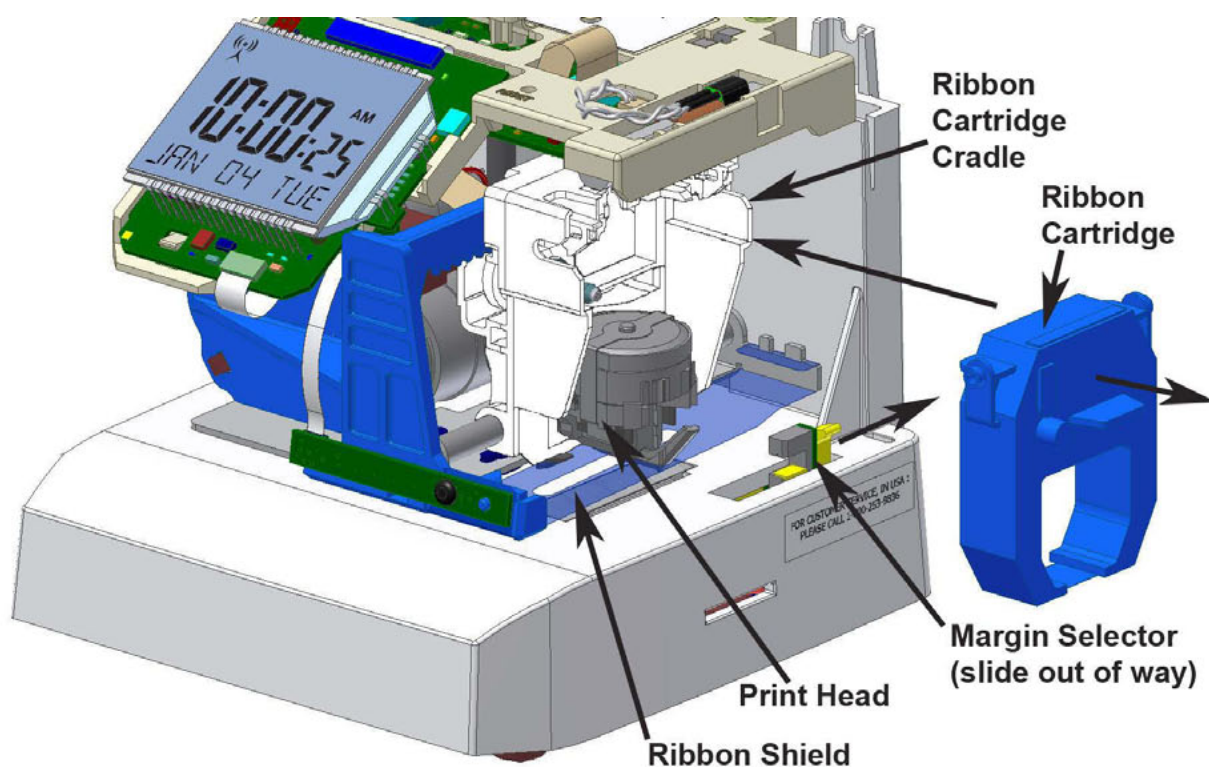

Figure 2: TCX-85 Ribbon Cradle Location.
The Amano TCX-85 clock pictured in Figure 2 (next page) shows a typical layout with the ribbon cartridge removed from the cradle.
**Note** – If the print mechanism is down (a piece of paper could not be inserted), press the **RESET** button to move the carriage to the up position. This will make the ribbon cartridge installation easier. **The Margin Selector (see Figure 2) can be moved toward the rear of the clock to provide more clearance for ribbon replacement. Remember to slide back to original location once finished.**